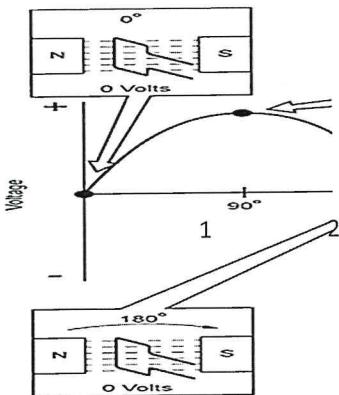

Figure 2(b)/ Rajah 2(b)
- b) Explain the principle operation of AC generator in Figure 2(b) from point 1 to point 3.